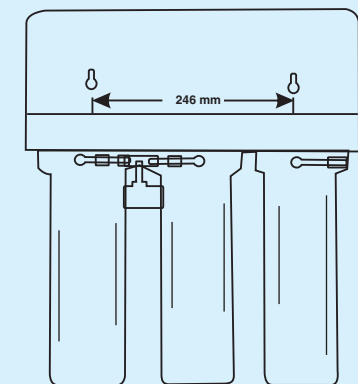

Figure 1
2. Carefully hang the purifier on the wall with the help of wall mounting slot holes present on the back side of the purifier as shown in the figure 1.